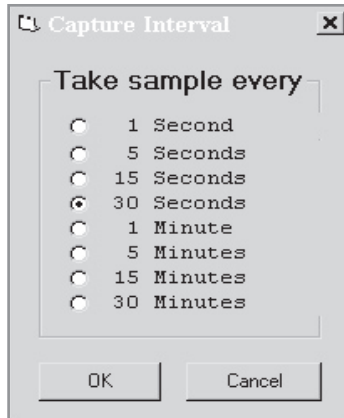

Figure 4
- 2 Select "File" then "Start Capture". The Capture Interval window will appear (Figure 4).